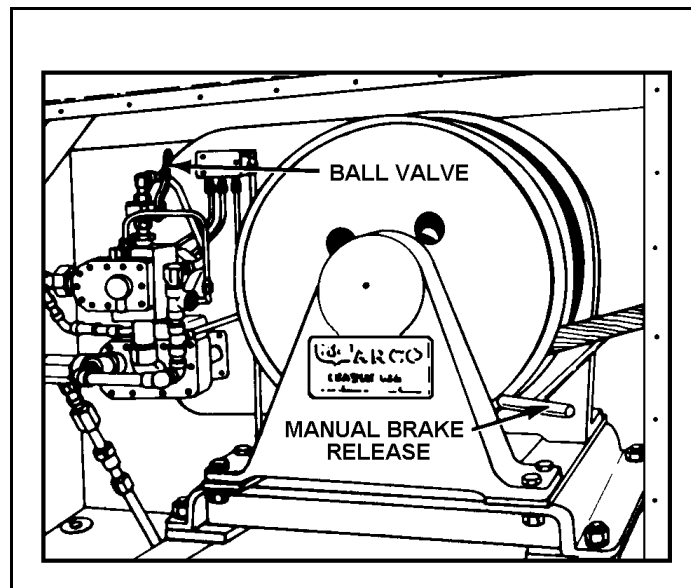

Figure 17-11. Manual Brake System**HULL NUMBERS 8520 THROUGH 8560 AND 8600 THROUGH 8618**
- **Step 6.** Lift up on the manual brake release handle (Figure 17-11) to control the rate of speed that the ramp will fall.